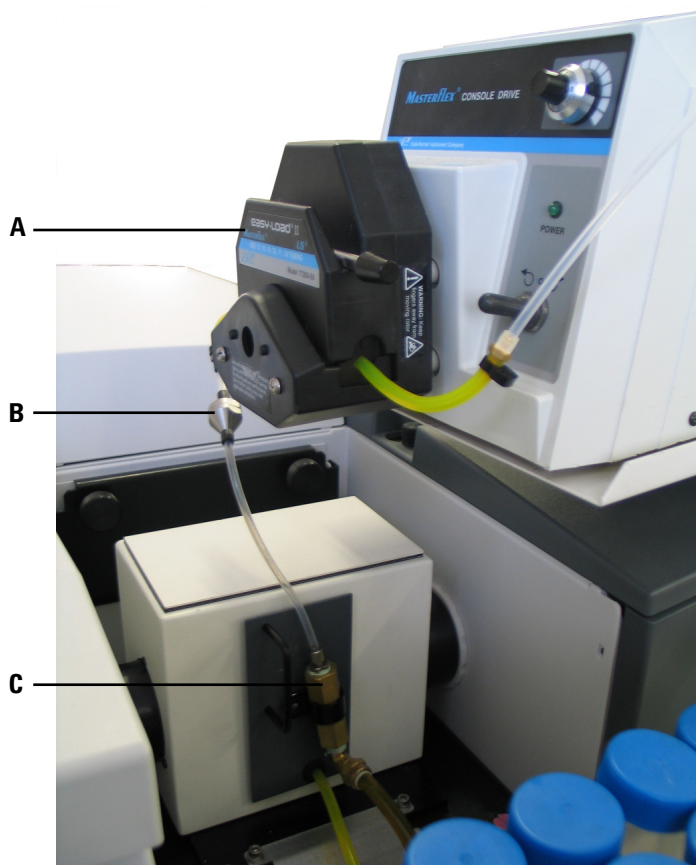

Figure 7. Sample cell and pumping components of the accessory
- 3** Slide the base of the C-shaped pump stand under the spectrometer. The stand should be positioned such that the pump head protrudes over the sample compartment of the spectrometer, as shown in Figure 7.
The main plumbing components of the FTIR spectrometer and Oil Analysis accessory important during routine use are shown in Figure 7, which depicts a side view of the system without an Advanced Autosampler.